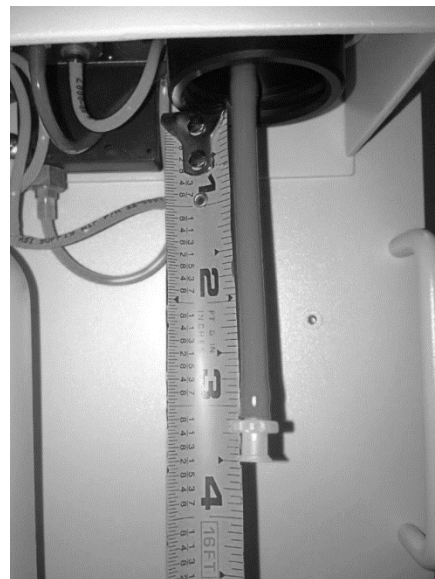

Fig. 1
- 3 Cut existing pick-up tubing 3-1/4" from pressure head. Using supplied adapter, insert male connector into pick-up tubing. (Fig. 1)